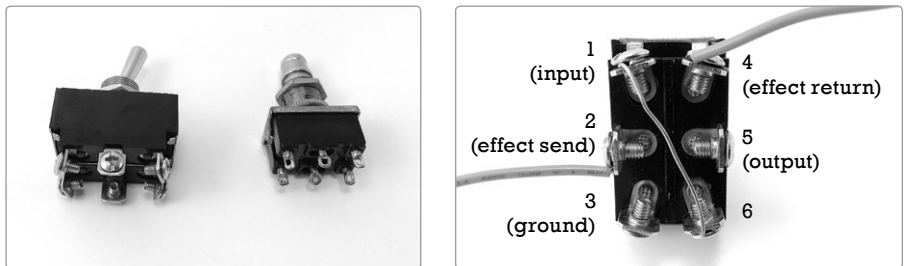

FIGURE 14-5: *Two styles of DPDT switch with two different styles of lugs (left)—both wire up the same way (right)*
The last piece of hardware is the *bypass switch*, which will allow you to bring the Twin-T Phaser/Wah in and out of your *effects chain* without unplugging a bunch of stuff. We're using a standard DPDT toggle switch. Cut a short length of bare bus wire and run it diagonally from lug 1 to lug 6. Solder this in place (or screw it down if you have screw terminals like the ones shown in Figure 14-5). Then cut, strip, and tin two lengths of insulated wire. Solder one insulated lead to lug 2 and the other lead to lug 4.
*** NOTE:** *The left image of Figure 14-5 shows a standard DPDT toggle switch (on the left) and a heavy-duty DPDT stomp switch (on the right). The standard switch is easy to find—any hardware store will have it. The stomp switches—which are the sort used in old-school commercial guitar effects (often called “stomp boxes”)—will need to be special ordered (see “Guidelines for Sourcing Components” on page 323). Both wire in the same way, as shown in the right panel of Figure 14-5.*